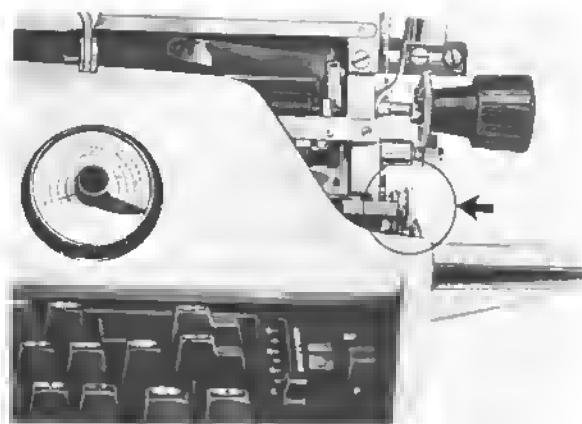

Figure 23b
4. Press the **automatic carriage return and paper feed key (41)** 3 or 4 times to assure that the left margin remains constant (this is easily done by observing the left margin dial for any change in its position). A  $\frac{1}{4}$  to  $\frac{1}{2}$  turn of the **margin stop adjuster knob (27b)** will "zero-in" the left margin (Figure 23b).
- a. To increase column width, turn the margin stop adjuster knob (Figure 23b) away from you.